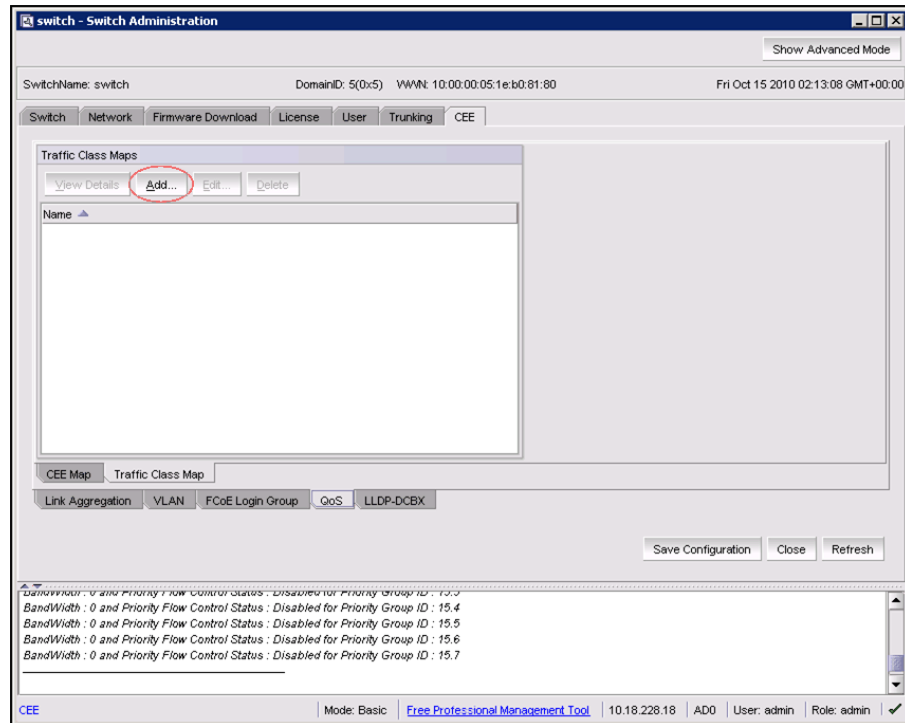

Figure 5-11 QoS tab → Traffic Class Map tab
2. Click **Add** (Figure 5-11).